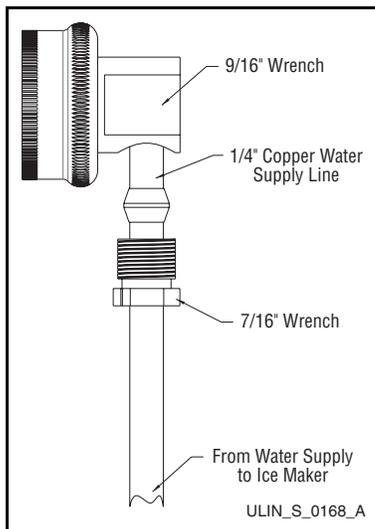

Figure 31
2. Locate the U-Line supplied garden hose fitting. Ensure the end of the copper tubing has been cut straight and free of burrs. Slide the compression nut and ferrule onto the copper tubing as shown (see **Figure 31**). Push the assembly completely into the the garden hose fitting and tighten using the two wrenches. Wait to connect this assembly to the appliance until the drain connection is ready.